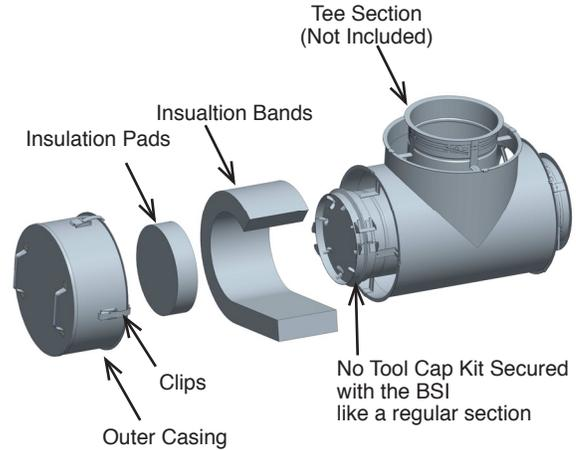

Figure 43- Step 1 & 2 for the No-Tool Tee Cap Installation
- 2- Use the inner V-Band (BSI) to secure the No-Tool Cap Kit to the flange of the 90° Tee (T90, not included) as specified in the JOINT ASSEMBLY section. See **Figure 43**.